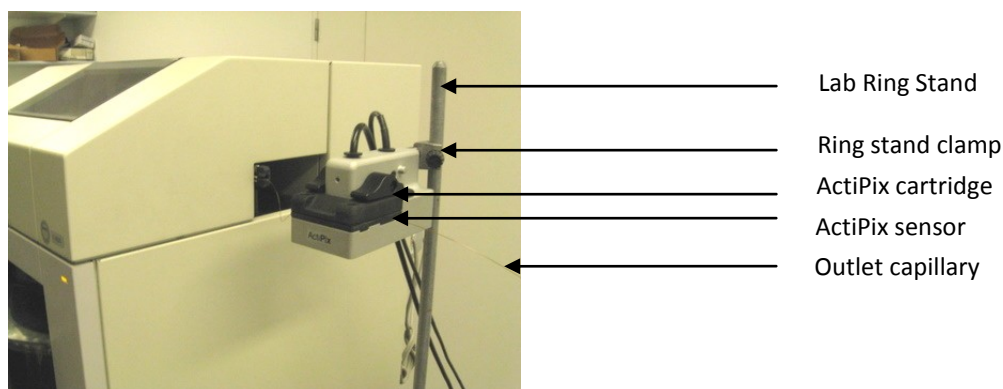

Figure 9. Locate the ActiPix sensor as close as possible outside the HP3D.
11. Position the ActiPix sensor next to the HP^{3D} CE system on an appropriate, stable support stand. Figure 9 shows a typical example. The height of the sensor should be equal with the output of the CE-MS cassette to avoid unnecessary strain on the separation capillary.